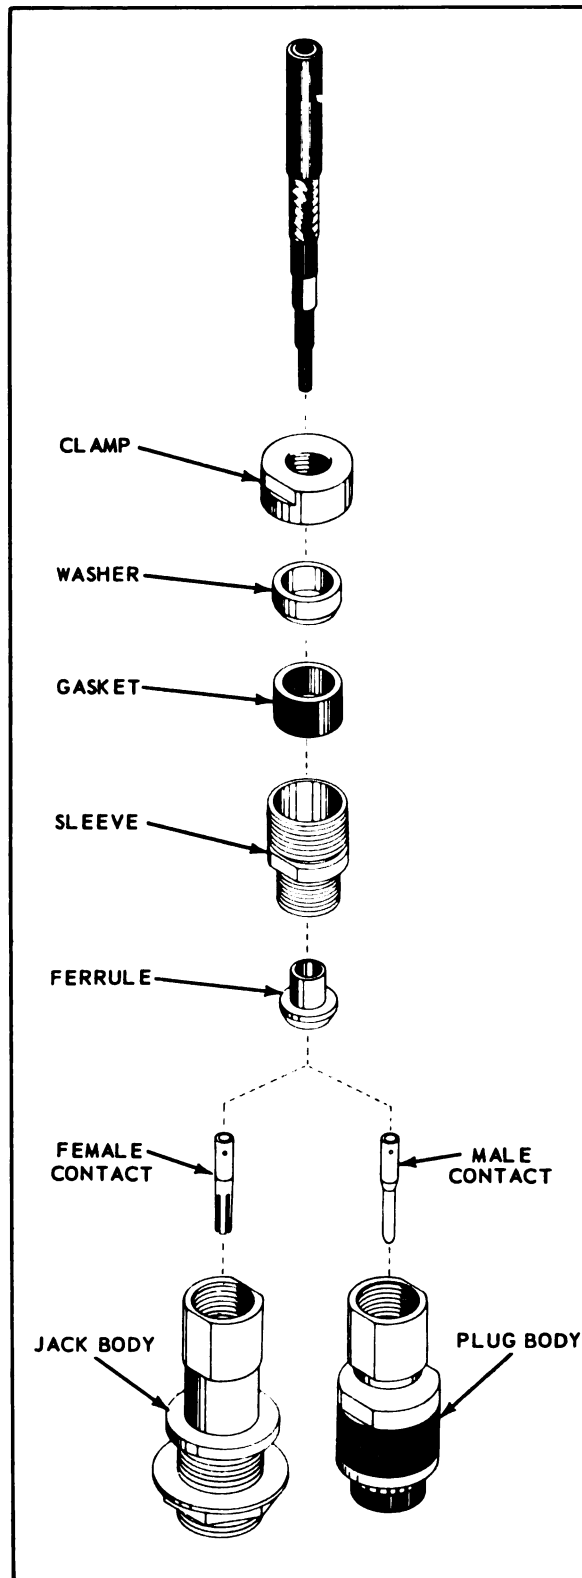

Figure 4-30. Pulse Connector - Rubber Insert
b. Rubber Insert Version (See figure 4-30) - consists of a plug or jack body assembled to coaxial cable with clamp, washer, gasket, sleeve and ferrule. Plug UG-180A/U and Jack UG-182A/U are typical of this version.
a. Disassemble nut, washer, gasket, sleeve and ferrule from plug or jack body. See figure 4-30.